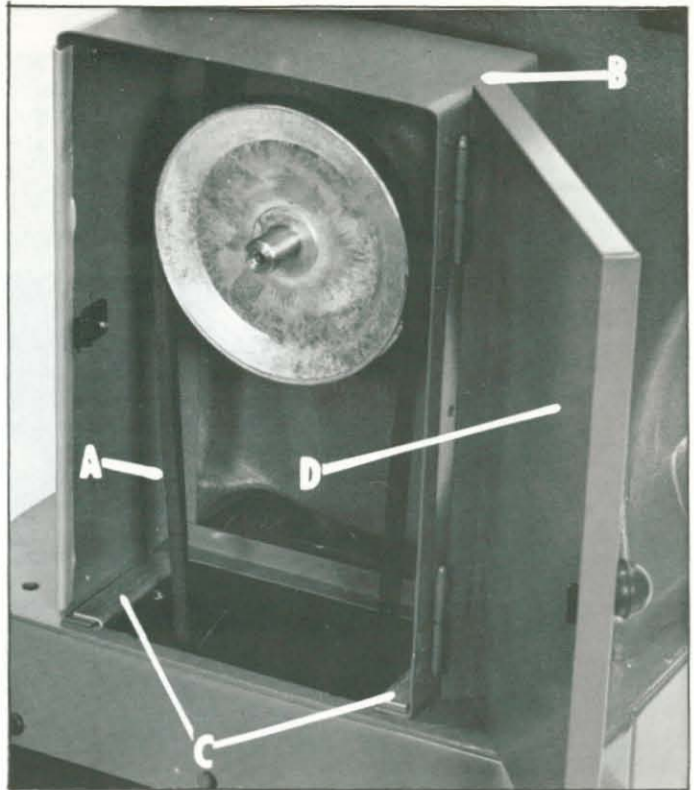

Fig. 12
1. Remove V-Belt (A) Fig. 12.
2. Place the belt and pulley guard (B) Fig. 12, on the top shelf over the belt opening and position the two clamps (C) over the guard flanges and under the top of the stand as shown. Use the four round head screws in the bottom of clamps to fasten in place.
3. Replace the V-Belt and place door (D) Fig. 12, on hinges.